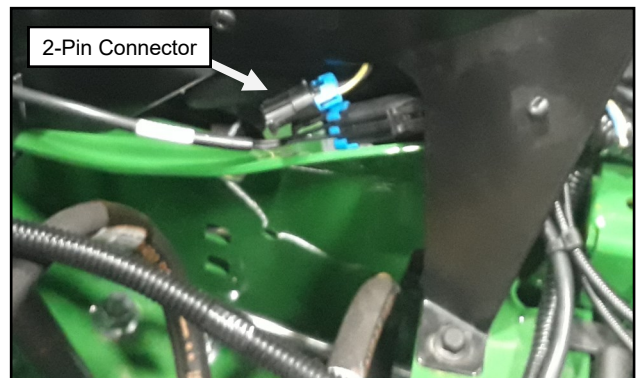

Fig. 1.17 (Rerouted 2-Pin Connector)
- 1.17** Remove cover from the 2-pin connector found behind the removed instrument panel. Next, cut wire tie and route connector so that it is accessible once the instrument panel is reinstalled. See Figure 1.17.